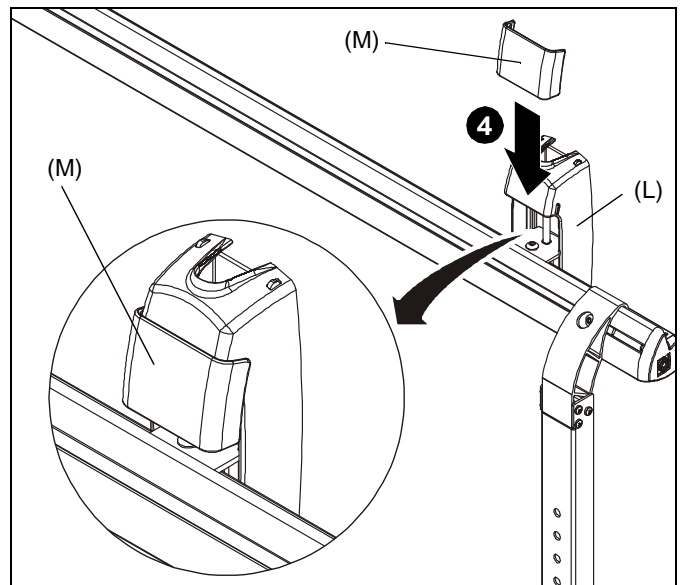

Figure 21
4. Slide the sliding cover (M) down over the wall bracket cover (L). (See Figure 21)